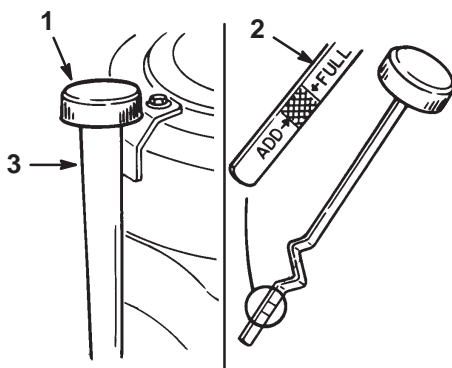

Figure 27
4. Clean around the oil dipstick (Fig. 27) so that dirt cannot fall into the filler hole and damage the engine.
5. Unscrew the oil dipstick and wipe the metal end clean (Fig. 27).
6. Slide the oil dipstick fully into the filler tube, but do not thread it onto the tube (Fig. 27).
6. Slowly pour approximately 80% of the specified oil (refer to Service Interval/Specification, page 27) into the filler cap (Fig. 27).